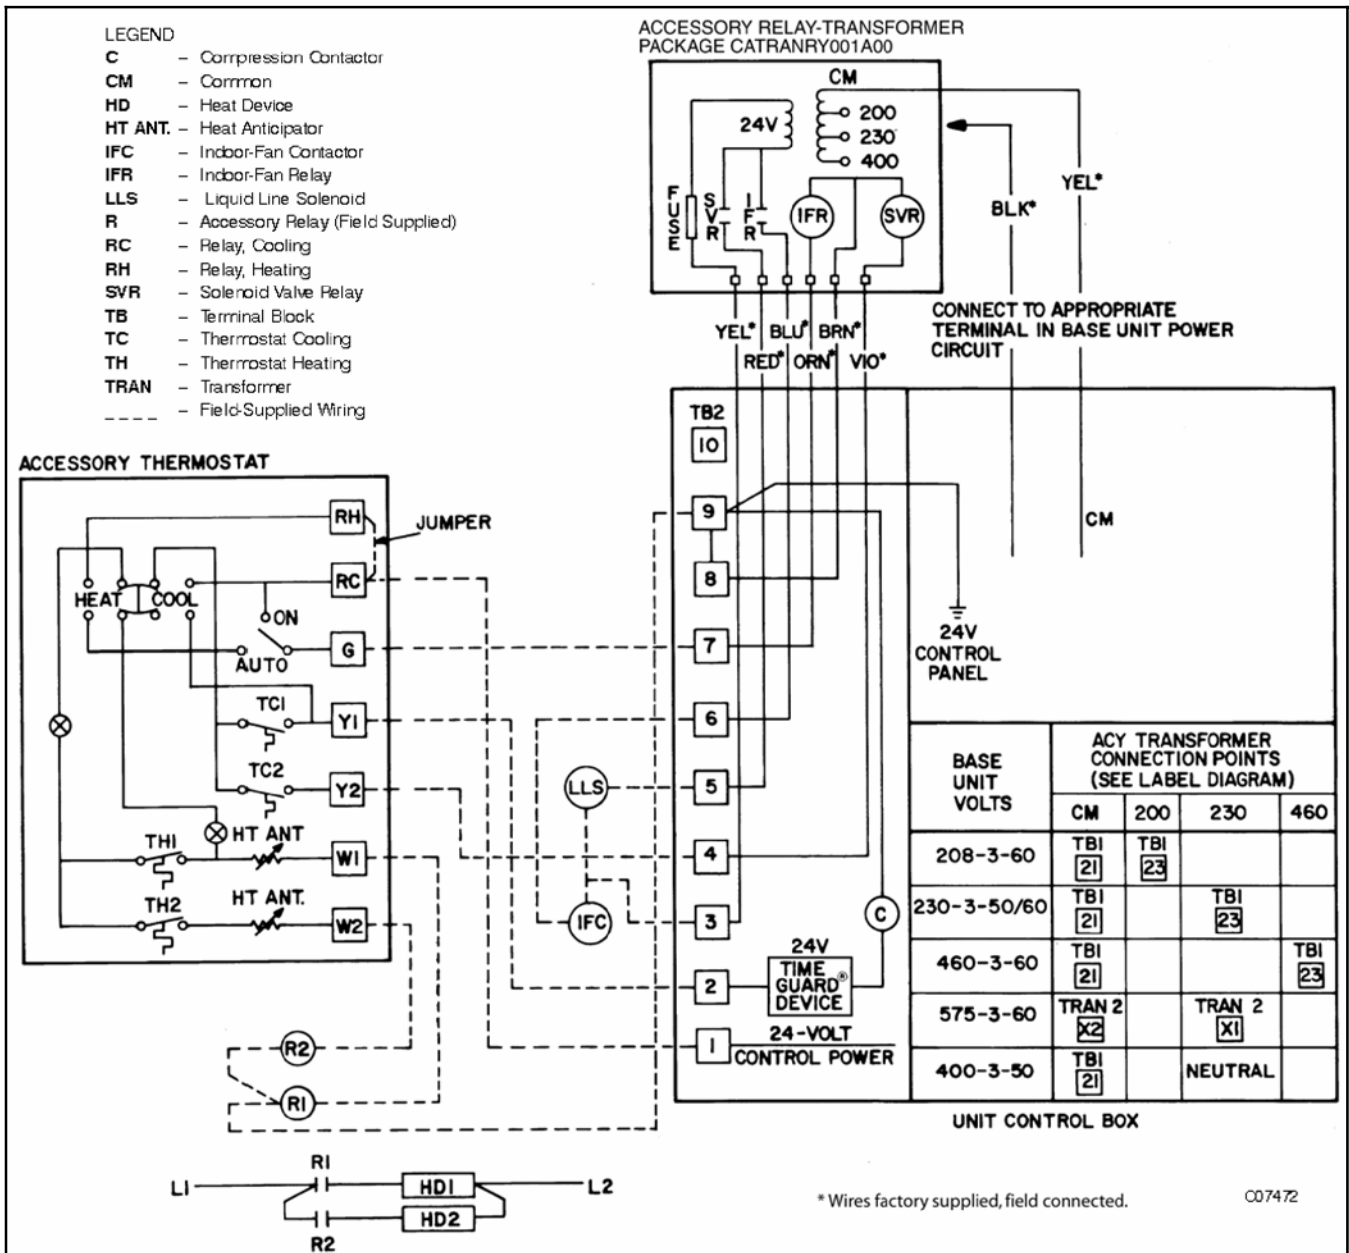

Fig. 2 - Relay-Transformer Accessory Wiring
4. Connect wires to unit controls as shown in Fig. 2.